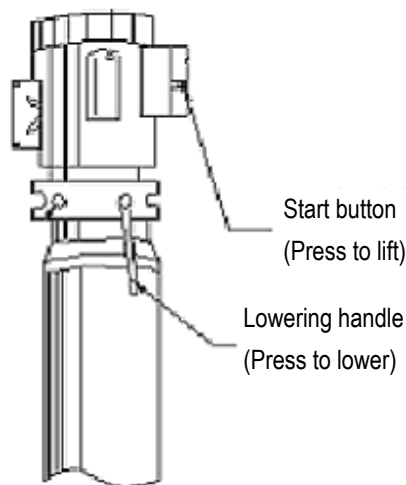

Fig.4
- Press the UP button on the electric control box(Fig.4), slowly lift the vehicle to ensure the load balance, and then raise the lift to the required height.
- Pull the safety lock handle, then press down the lowering handle(Fig.4),the carriage lowers